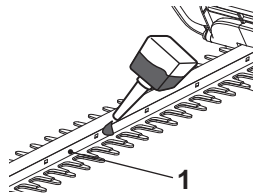

Fig. 17
13. Lubricate the internal surfaces of the blade if the cutting device (blade) (1) overheats during operation (Fig. 17).
1. Keep the cutting device (blade) (1) clean and free of debris. Remove trimmings with a brush.
2. Apply a small amount of suitable lubricant on the cutting device (blade) to retain a good cutting performance (Fig. 17).